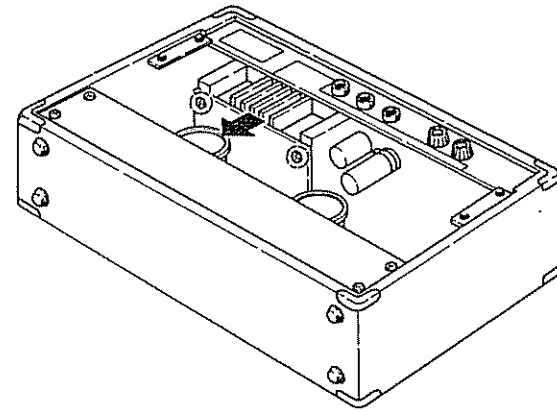

Figure 2
2. Remove the 2 screws holding the MA circuit board to the chassis, as shown in Figure 2, and pull it down.